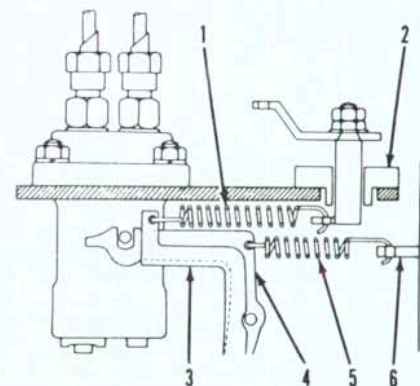

Fig. 51—View of governor linkage and springs.
Remove injection pump side cover, then disconnect governor spring (1—Fig. 51) from governor lever (3). Remove speed control plate (2), then disconnect start spring (5) from gear cover (6). Remove fan belt, then use a suitable puller to remove crankshaft pulley. Remove alternator and mounting bracket. Remove hourmeter drive (if equipped) from front cover. Disconnect water pump by-pass hose. Remove retaining cap screws and withdraw timing gear cover.